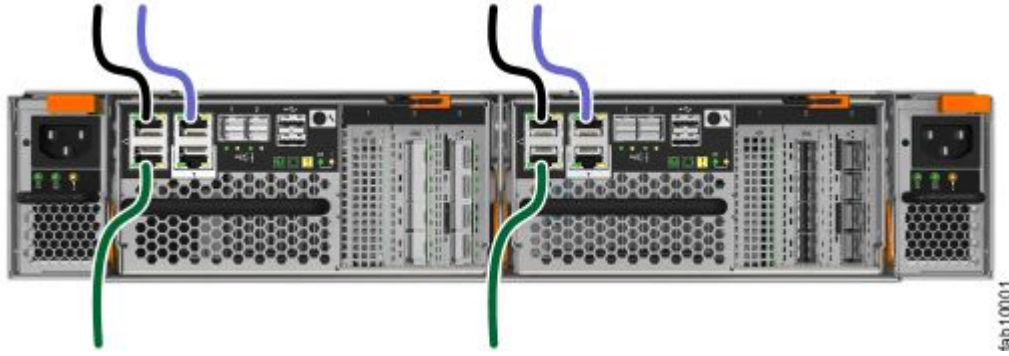

Figure 23. Connecting the Ethernet cables
- Step 1. Connect Ethernet port 1 of each node canister in the system to the IP network that will provide connection to the system management interfaces, as shown in Figure 23 “Connecting the Ethernet cables” on page 25. This port can also be used for iSCSI connectivity to the system by hosts on the network. Where more than one control enclosure is present in the system, ensure port 1 of every node canister is connected to the same network to provide access if the configuration node fails.
- Step 2. Optionally, connect Ethernet port 2 of each node canister in the system to a second IP network that will provide redundant connection to the system management interfaces, as shown by the lighter cable connection in Figure 23 “Connecting the Ethernet cables” on page 25. This port can also be used for iSCSI connectivity to the system by hosts on the network. If there is more than one control enclosure in the system, ensure that port 2 of every node canister is connected to the same network to provide access if the configuration node fails.